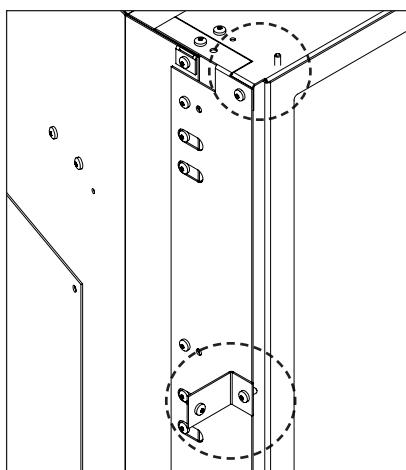

Figure 32: Panel Bracket Installed and Pin Location
1. Using the supplied hardware install a Trimmable Panel Bracket, on its short leg, onto each side of the stove using a T-20 Torx screwdriver. See Figure 32 for the screw location and bracket orientation.
2. Install the Trimmable Panel, **WITH THE FLANGES FACING OUT**, onto the Side Extensions and in front of the Panel Brackets by hooking the Panel's top flange onto the alignment pins on top of the Top Extension (See Figure 32).